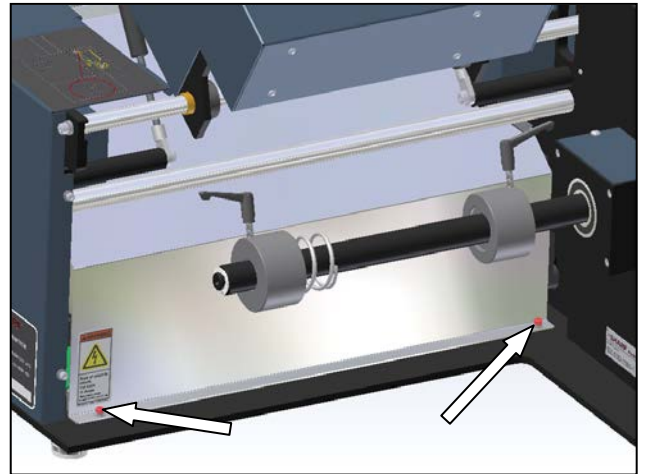
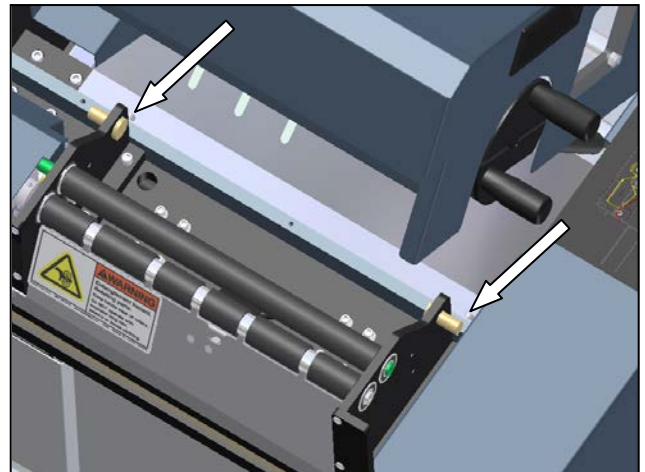

Figure 3-21. Motor Cover Rear Screws
Figure 3-22. Motor Cover Front Screws
3. Remove the two rear screws and the two front screws from the Motor Cover (Figure 3-21 and Figure 3-22).